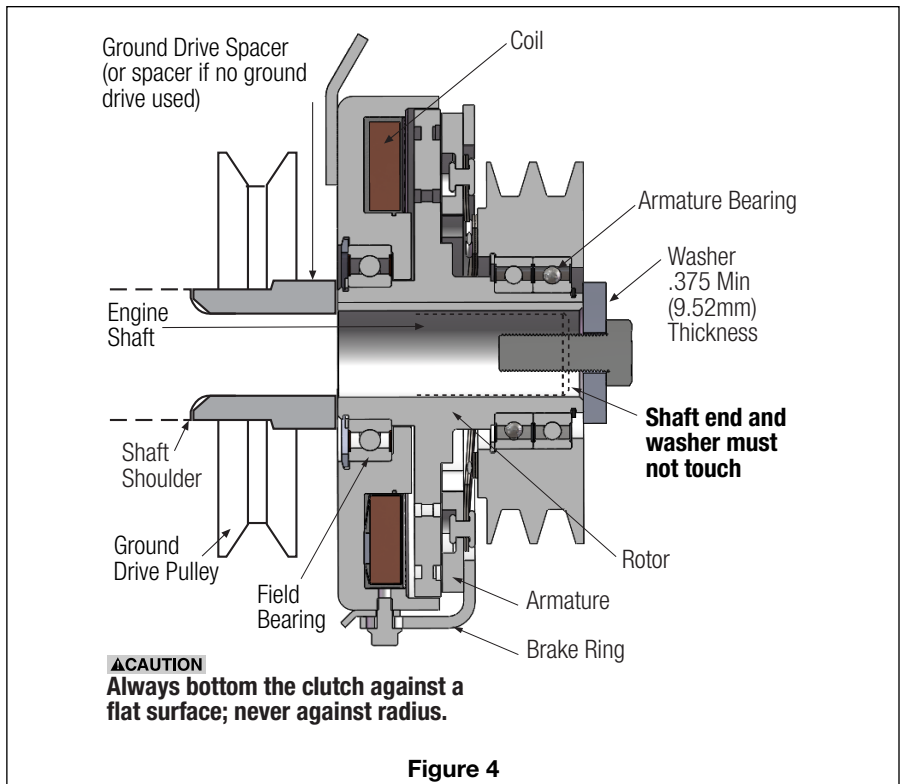

Figure 4
9. End of engine shaft and washer if equipped, should NOT touch. **See Figure 4.** If this occurs, clutch will not have the correct amount of clamp pressure when bolt is installed and torqued to correct value.